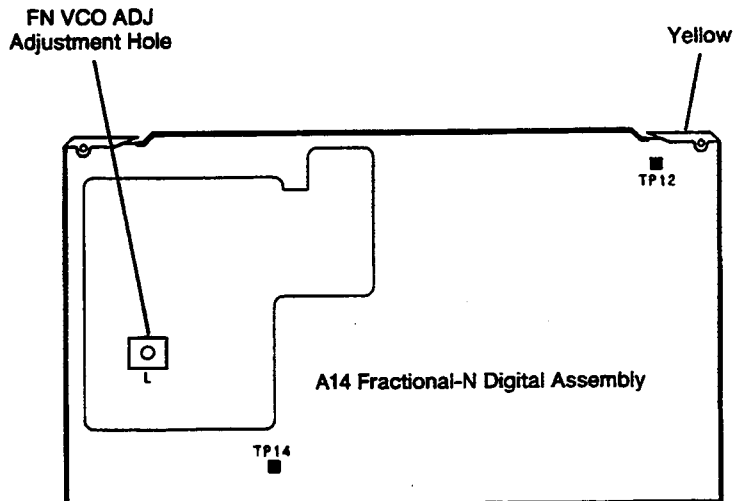
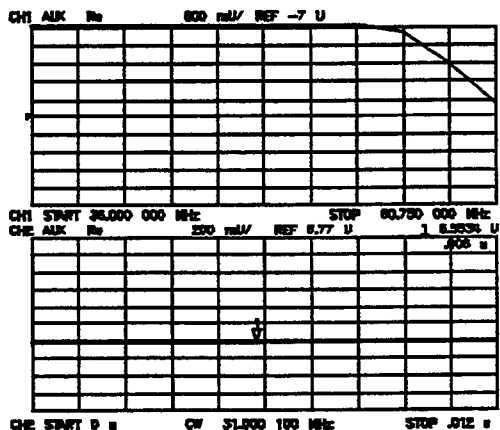

Figure 5. FN VCO TUNE Adjustment Location
Figure 6. Fractional-N Frequency Range Adjustment Display
- Adjust "FN VCO TUNE" (see Figure 5) with a non-metallic tool so that the channel 1 marker is as many divisions above the reference line as the channel 2 marker is below it (see Figure 6).